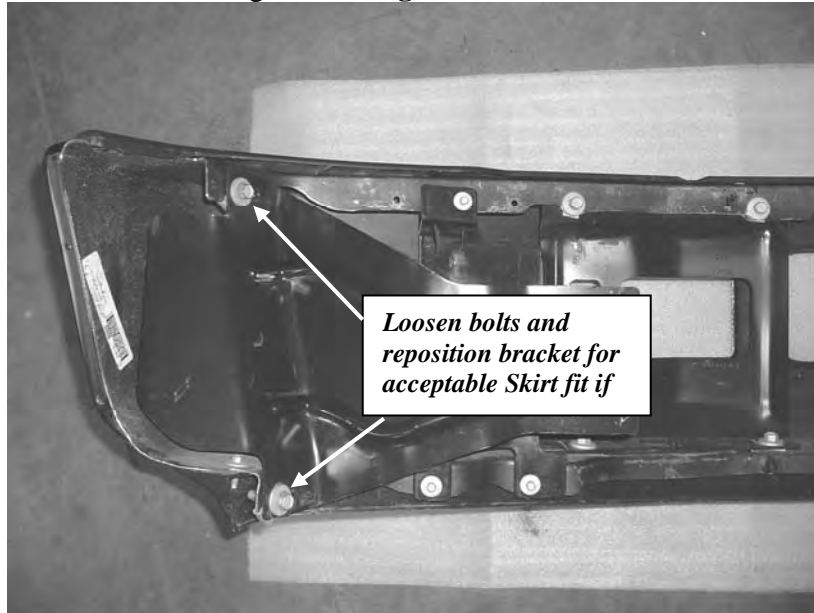

Figure 10 LH bumper bracket
13. Hold the LH Skirt in place. The part should be against the underside of the bumper tread and moved left or right for best fit. The upper bumper end bracket bolt may have to be loosened and the bracket slid forward to clear the Skirt. Tighten the bolt after moving it. **See Figure 10**